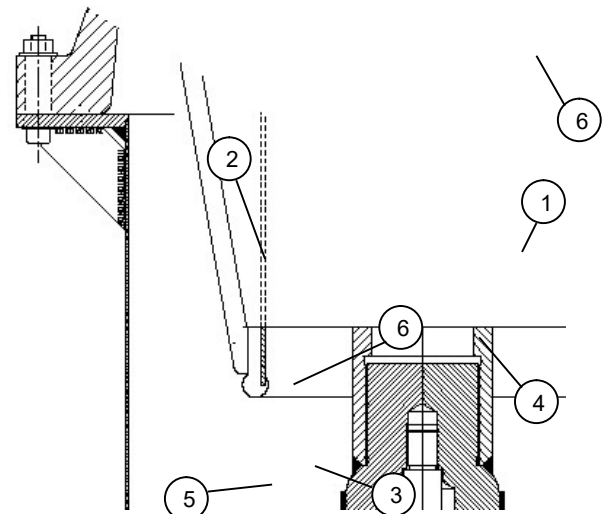

Fig. 7
Before the installation, reduce the inside (transport) pressure, pressing the automatic valve on the transport cover (item 1 - fig. 7).
In some cases, particularly when the bushing is very long, the central conductor (item 2 - fig. 7) is fixed in the lower part of the bushing in order to prevent damages during transportation. This mechanical action is realised through some Belleville springs (3) placed in the bottom part of the protective cap (4).